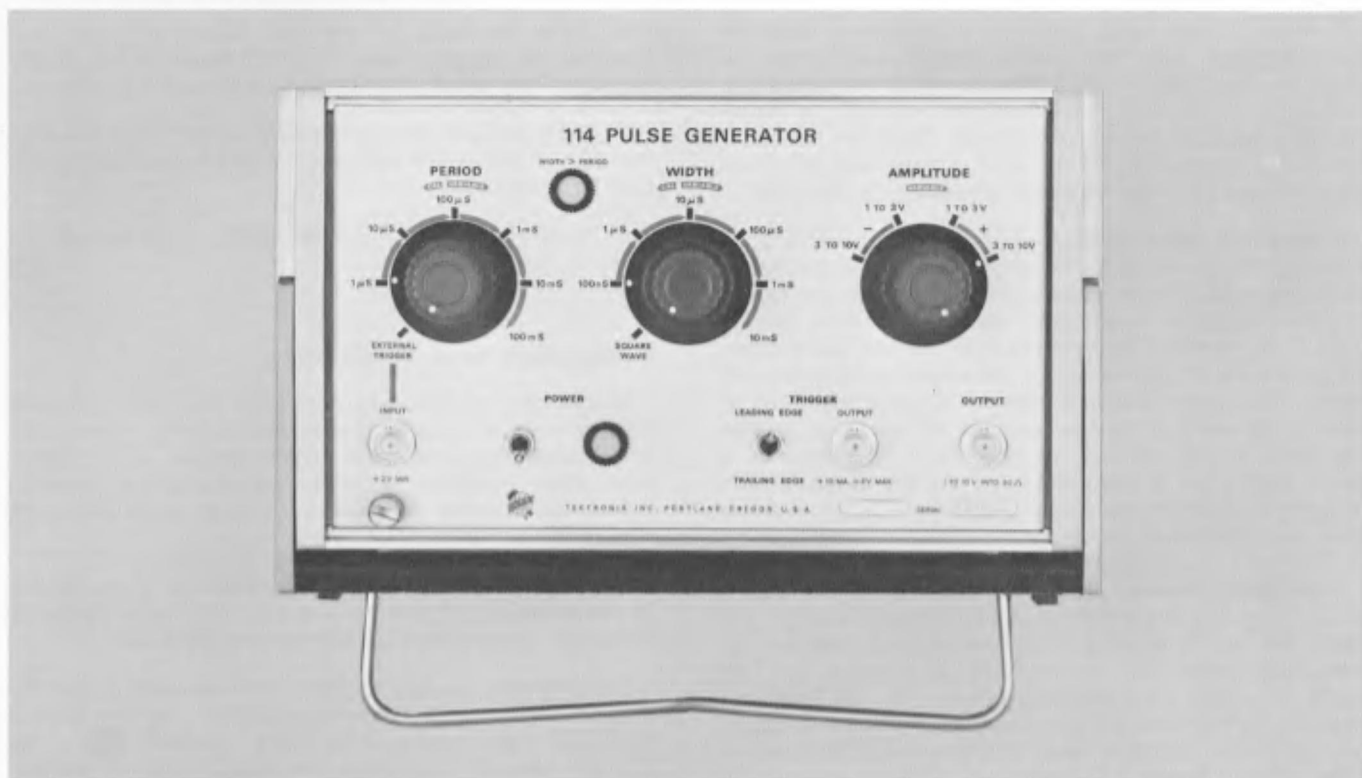

Fig. 4-2. Initial control settings for calibration.
4. Set the Type 114 front-panel controls as shown in Fig. 4-2.
- a. Set all controls as shown in Fig. 4-2